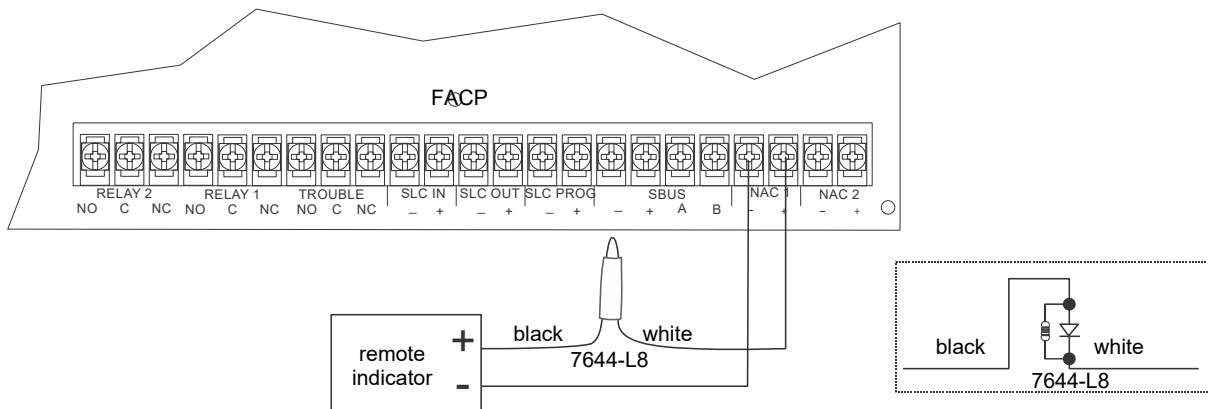

Figure 4.47 Polarity Reversal Connection Using the 7644-L8
1. Wire the 7644-L8 to the control panel as shown in Figure 4.47. Do not install an EOL resistor on the terminals of the NAC circuit used.